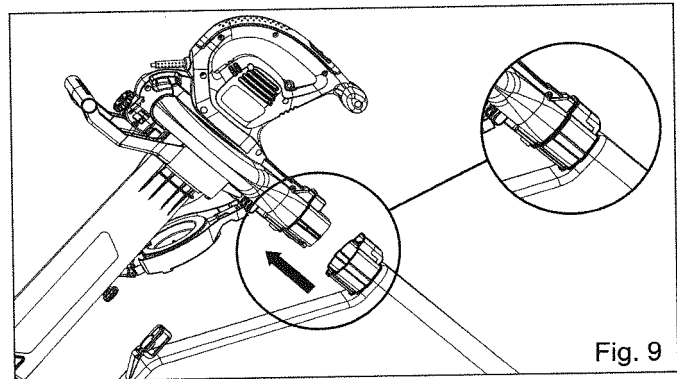
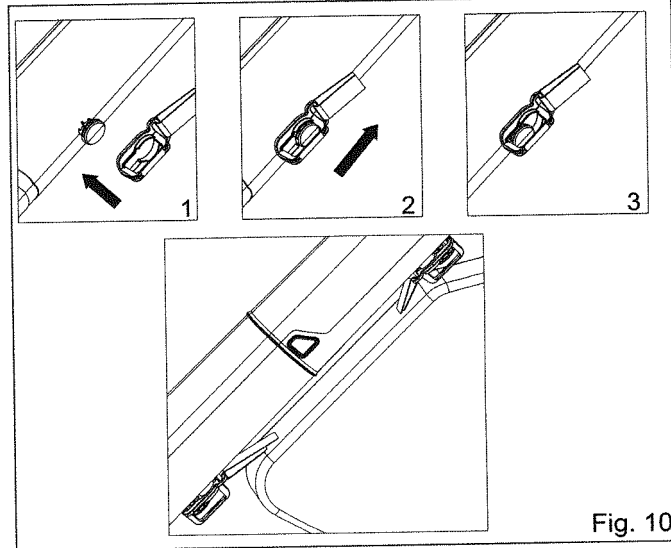

Fig. 9
Fig. 10
5. Insert the collection bag adaptor into the blower air outlet until the collection bag is securely fastened (Fig. 9), then make the bag hook the strap holder on the two sides of the tube (Fig. 10).